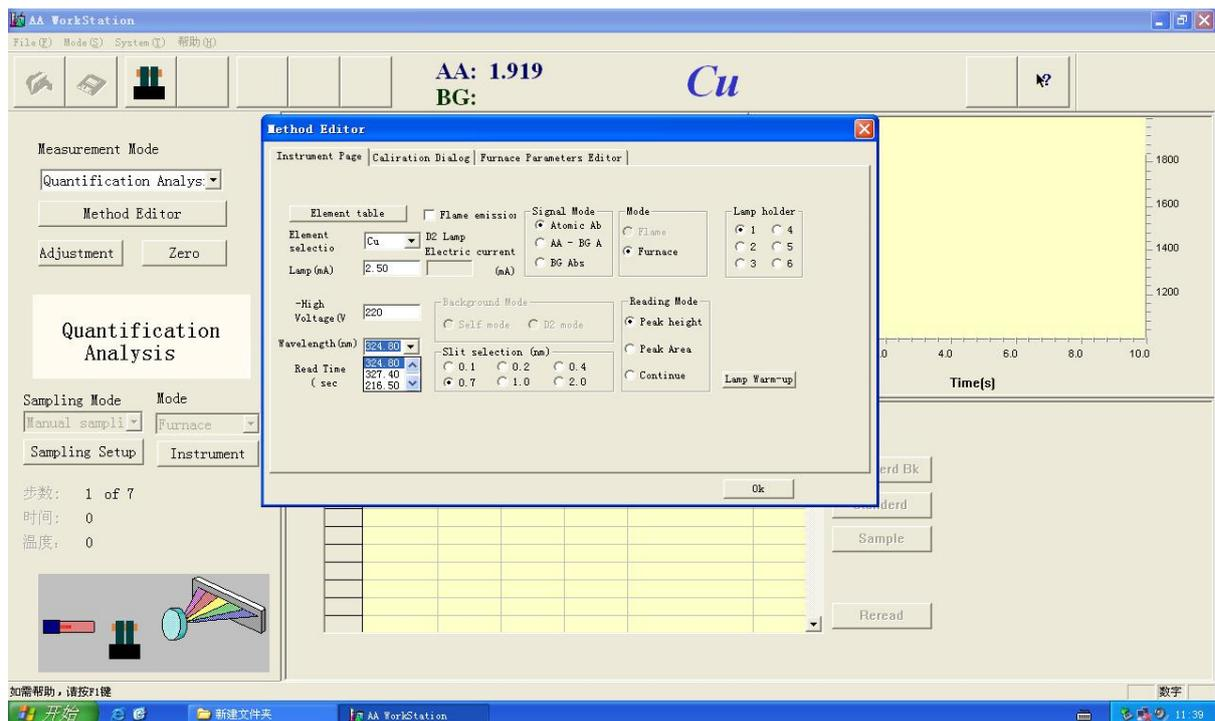

Figure 4-15
5. Wavelength choosing. The default wavelength is main sensitive line of selected element, if you want to select another sensitive line move the cursor to "wavelength" drop-down box, check one and click on a wavelength value, the wavelength is selected, as shown in Figure 4-15.